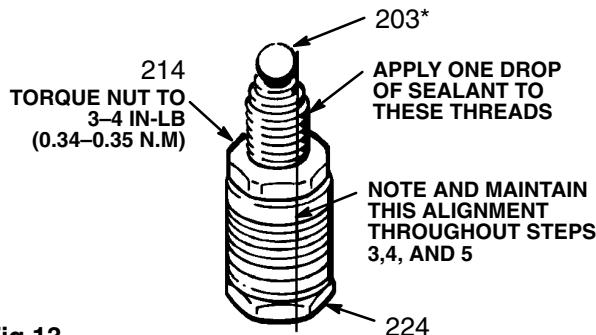

Fig 13
2. Tighten the packing retaining nut (214) onto the piston valve (224) and torque to 3–4 in-lb (0.34 – 0.35 N.m). See Fig 13.
**NOTE:** **NOTE THE ALIGNMENT** of the piston (224) to the nut (214). Maintain this alignment throughout Steps 2, 3 and 4.
3. Apply 1 drop only of sealant, supplied with the repair kit, to the piston valve threads. Place the small ball (203\*) on the valve. See Fig 13. Hand tighten the valve into the rod (223) just until the nut contacts the rod. Place the flats of the displacement rod in a vise.